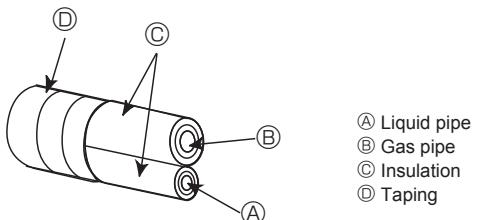
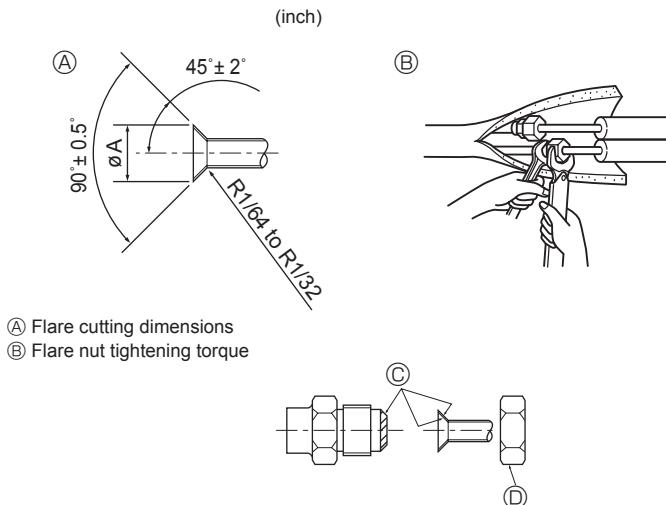

Fig. 4-4
Fig. 4-5
4.3. Connecting pipes (Fig. 4-4, Fig. 4-5)
[Fig. 4-5]
Ⓐ (Fig. 4-5)